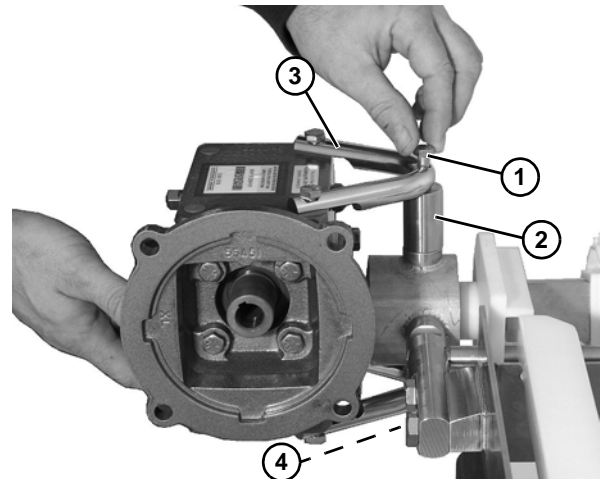

Figure 55
4. Remove top bolt (Figure 55, item 1) and spacer (Figure 55, item 2) holding the bracket (Figure 55, item 3) to the drive assembly.
5. Remove bottom bolt (Figure 55, item 4).